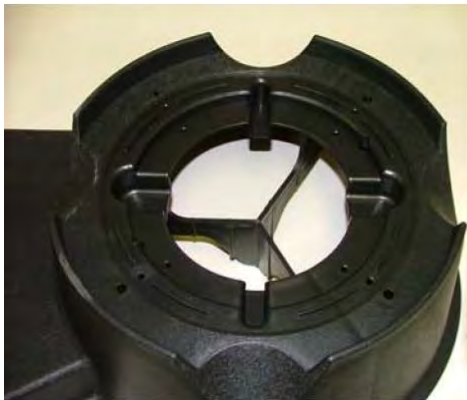

Figure 4
1. Place the filter tank foot on the filter end of the system base (see Figure 4).